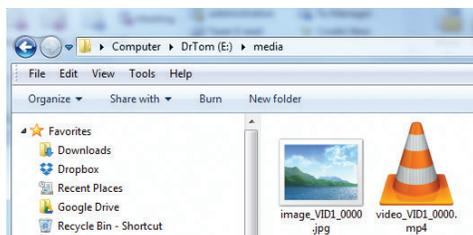

Figure 19. Media Directory
- If a USB is used for data storage, all images are saved as MP4 files to a media directory. To print from the media directory, the user must have the directory structure and know how to navigate the directory (Figure 19).